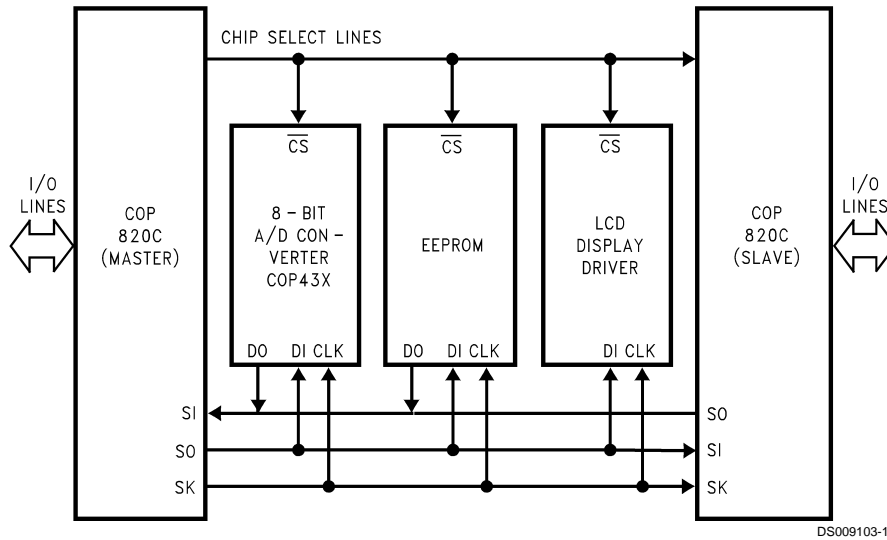

FIGURE 7. MICROWIRE/PLUS Application
Setting the BUSY bit in the PSW register causes the MICROWIRE/PLUS arrangement to start shifting the data. It gets reset when eight data bits have been shifted. The user may reset the BUSY bit by software to allow less than 8 bits to shift. The device may enter the MICROWIRE/PLUS mode either as a Master or as a Slave. Figure 7 shows how two microcontrollers and several peripherals may be interconnected using the MICROWIRE/PLUS arrangement.
In the MICROWIRE/PLUS Master mode of operation the shift clock (SK) is generated internally. The MICROWIRE/PLUS Master always initiates all data exchanges. (See Figure 7). The MSEL bit in the CNTRL register must be set to enable the SO and SK functions onto the G Port. The SO and SK pins must also be selected as outputs by setting appropriate bits in the Port G configuration register. Table 4 summarizes the bit settings required for Master mode of operation.
The user must set the BUSY flag immediately upon entering the Slave mode. This will ensure that all data bits sent by the Master will be shifted properly. After eight clock pulses the BUSY flag will be cleared and the sequence may be repeated. (See Figure 7.)